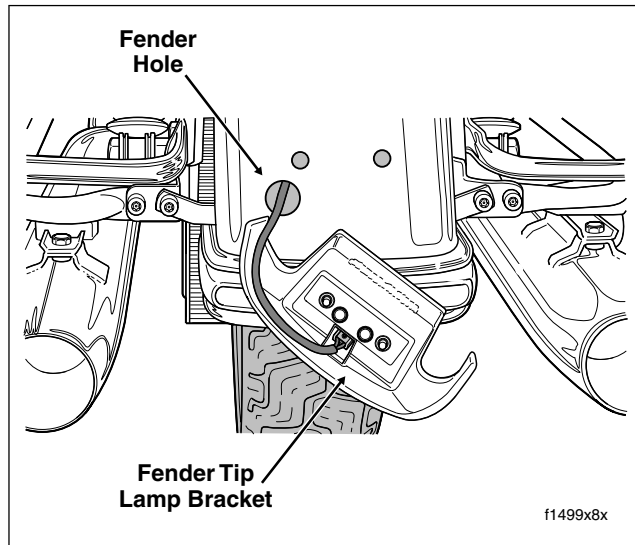

Figure 8-54. Feed Fender Tip Lamp Socket and Conduit Through Fender Hole
8. Draw conduit and socket housing out through bottom fender hole. See Figure 8-54.
4. Feed socket housing and conduit through bottom fender hole. See Figure 8-54.